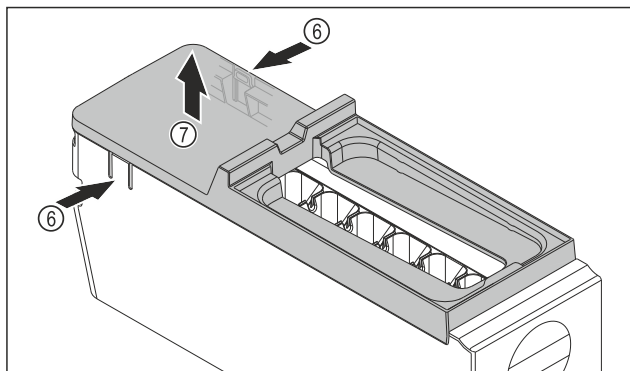

Fig. 159
- Removing the EasyTwist-Ice body cover: Push the tabs Fig. 159 (6) on both sides of the EasyTwist-Ice body with one hand.
- Use the other hand to remove the cover Fig. 159 (7) upwards.